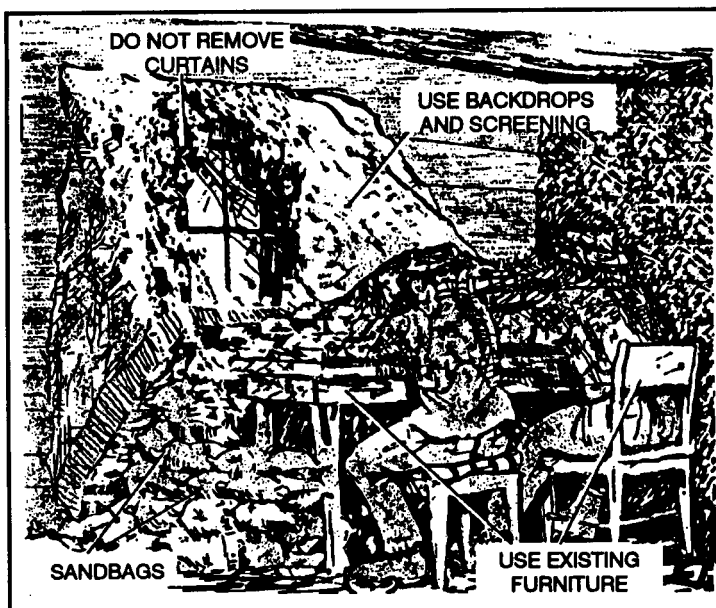

Figure 4-13. Room hide position.
(1) ***Room hide position.*** In a room hide position, the sniper team uses an existing room and fires through a window or loophole (Figure 4-13). Weapon support may be achieved through the use of existing furniture—that is, desks or tables. When selecting a position, teams must notice both front and back window positions. To avoid silhouetting, they may need to use a backdrop such as a dark-colored blanket, canvas, carpet, and a screen. Screens (common screening material) are important since they allow the sniper teams maximum observation and deny observation by the enemy. They must not remove curtains; however, they can open windows or remove panes of glass. Remember, teams can randomly remove panes in other windows so the position is not obvious.